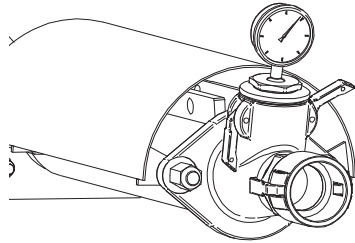

Fig. 2
**!** - Always relieve the pressure before disconnecting the pipes, turning the eccentric screw in the opposite direction for a few seconds: the pressure gauge (Fig. 2) must indicate a pressure of 0 bar.
Before towing the machine, remove the pressure gauge (Fig. 2), correctly position the drawbar so that, with the machine and the last element of the drawbar horizontal, the coupling is at the height of the tow hook, correctly secure the various drawbar elements (Fig. 3) hook the safety cable, couple the lights cable, after lifting and locking the mixing machine with the safety pin (Fig. 1, Ref. 21) correctly position the side impact bar (Fig. 1, Ref. 9), lift and lock the stabiliser feet, check the tyre pressures and operation of the various luminous devices, make sure there are no elements of the plastering machine or various material (screen, bags of material, pipes, tools, etc.) on the machine, and make sure the machine is generally in order.